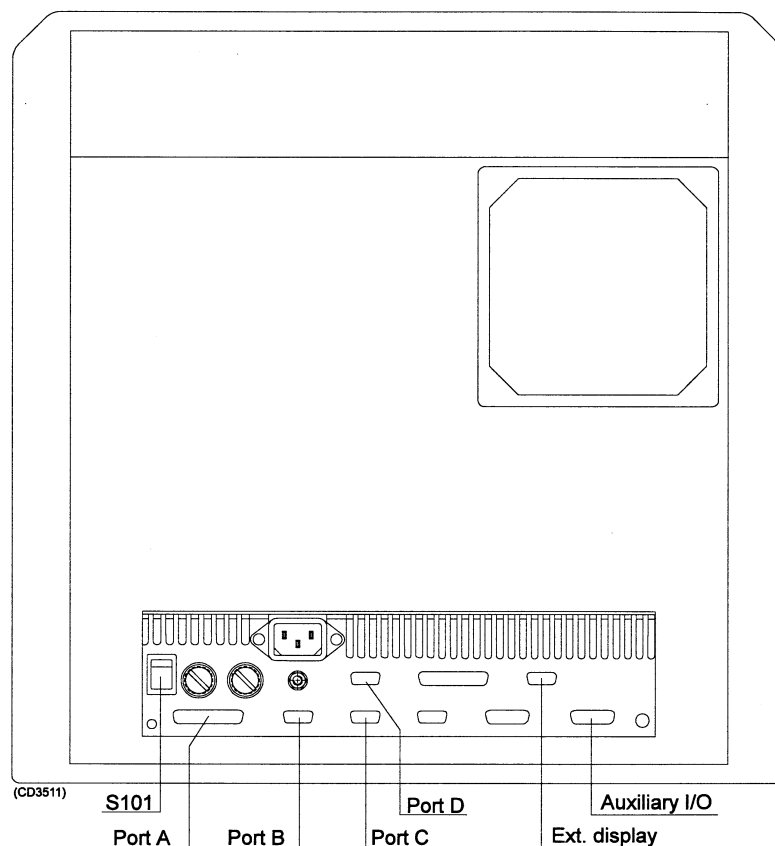
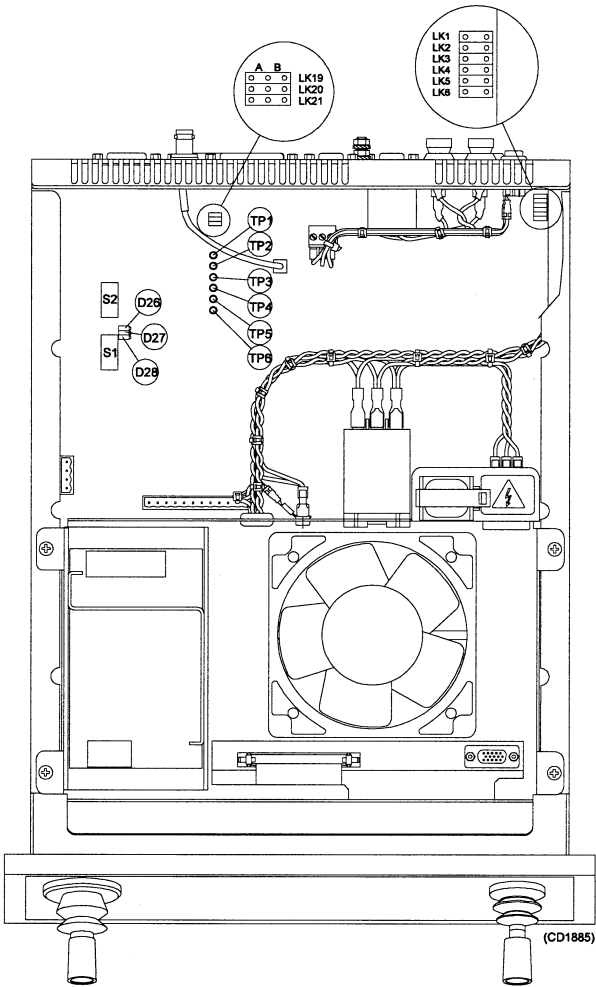

Figure 1 The rear side of the Sonar Control Unit
Figure 2 Location of the links
- Set the switch S101 at the rear of the Sonar Control Unit to OFF position. For location of the switch, refer to figure 1.
- Refer to figure 2 for location of the links LK1, LK4 and LK5, and set the links in shown in the table in figure 1.